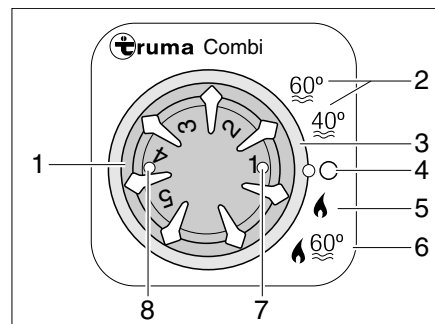

Fig. 307 Operating unit for heater/boiler
- Set the operating mode using the rotary switch (Fig. 307,3).
The heater selects the necessary burner setting according to the set heating level. In the "Heater and boiler" (Fig. 307,6) operating mode, the water in the boiler is also heated. The heater can be operated with an empty boiler in the "Heater without boiler" (Fig. 307,5) operating mode.
- Turn the temperature control knob (Fig. 307,1) on the operating unit to the desired heating level.
- Set the rotary switch (Fig. 307,3) to winter operation "Heater without boiler" (Fig. 307,5) or to winter mode "Heater and boiler" (Fig. 307,6).
The green indicator lamp (Fig. 307,7) lights up.
- Set the rotary switch (Fig. 307,3) to "O" (Fig. 307,4).